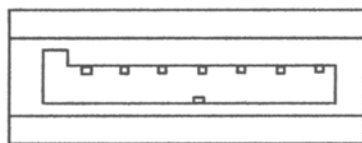

Figure 2A: Original
- *The original Serial ATA connectors have an L-shaped opening, see Figure 2A.*